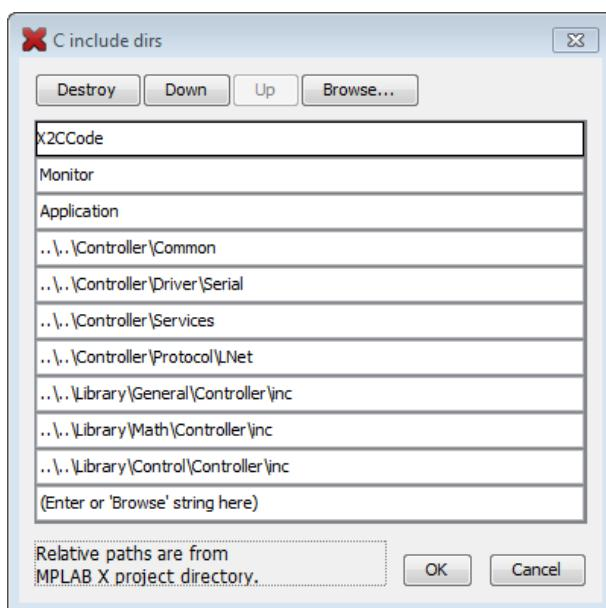

Figure 29: Default path variables for the include files
3. In the case the demo application is copied/moved to a different location, the include paths have to be adapted. To ensure the compiler uses the correct path variables right click on the **Projectname → Properties → XC16 Global Options → xc16-gcc**. In the drop down menu **Option categories** choose **Preprocessing and messages**. Click on the dots beside *C include dirs*. There are relative paths to the needed include files listed as seen in Figure 29. Correct the links by double clicking on the path variables.